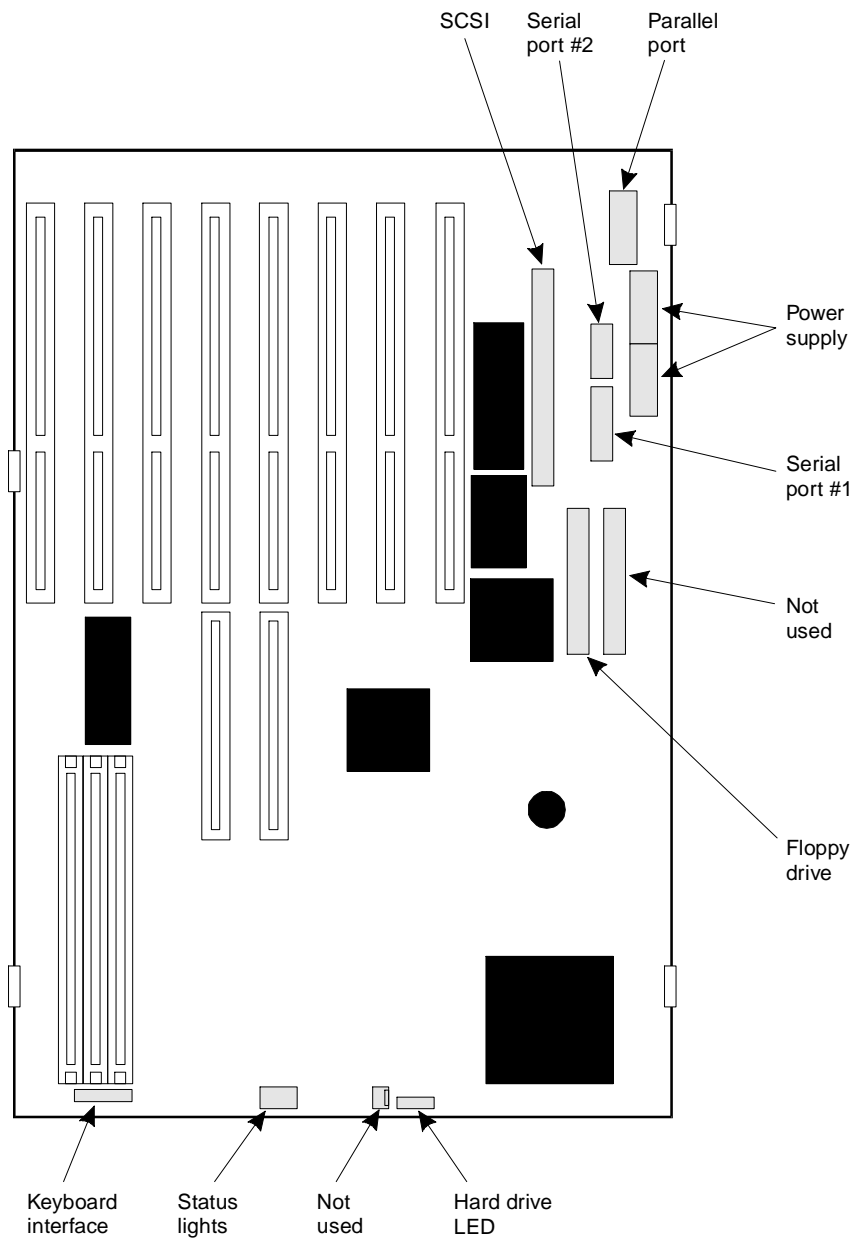

Figure C-10. Cable Connector Locations on the System Board
The labels on the system board are difficult to see, so use the locations shown in Figure C-10 and the size of the connectors as a guide.
- a. Connect the white power plug with three red wires to the system board connector marked Power Supply in Figure C-10.
This is the power supply connector closest to the front of the MAP/5 or the bottom one of the two shown in Figure C-10.
Connect it to the system board connector marked Parallel port in Figure C-10.
Connect it to the system board connector marked Serial port #2 in Figure C-10.
- g. Connect the floppy drive ribbon cable connector to the system board as shown in Figure C-10.
2. Reconnect the three small cables at the front of the MAP/5 as shown in Figure C-10.